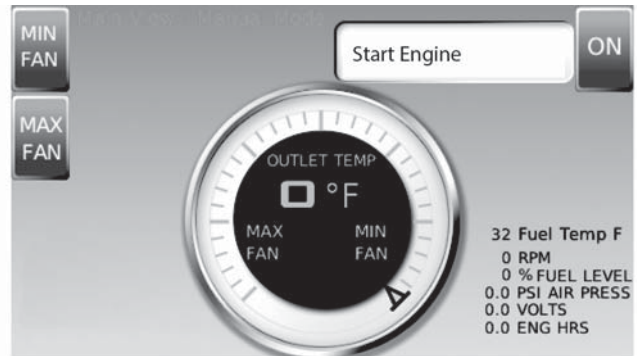

Figure 3-4. Start Engine
4. See **Figure 3-4**. When screen displays “Start Engine”, turn ignition key switch to START. Release ignition key switch once engine starts.